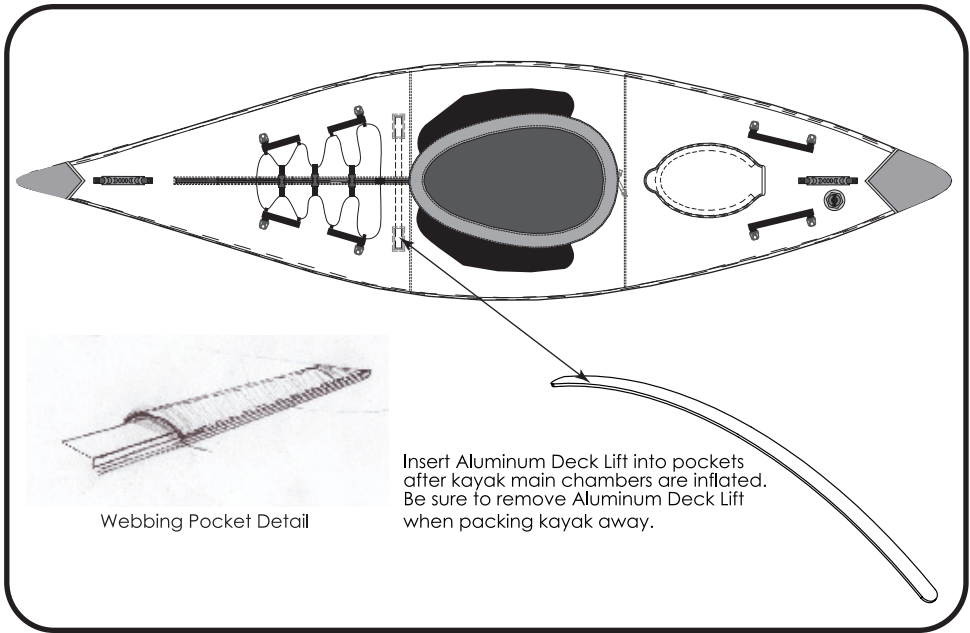

Figure 3. Aluminum Deck Lift Installation
- Making sure that the Aluminum Deck Lift is arching upward, insert each end of the curved Aluminum Deck Lift into the webbing sleeves. (*See Figure 3 on next page*)